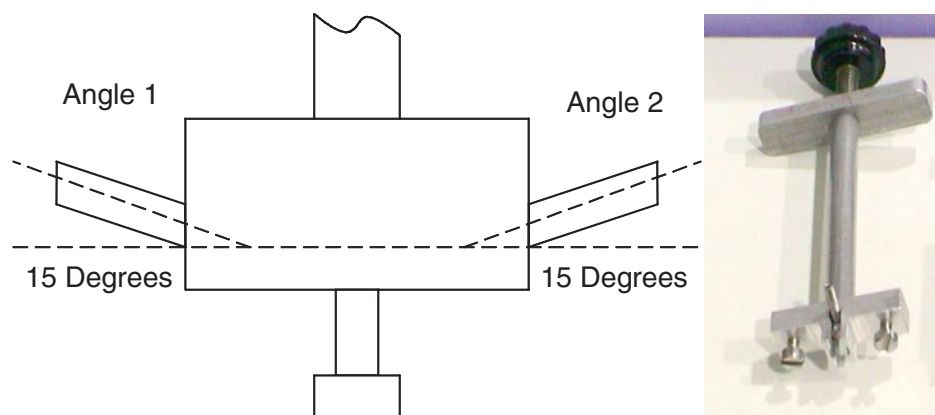

Figure 1-13 16 Slice Flex Removal Tool Pin Pitch
- * Use pliers or small crescent wrench to adjust angle on tool. See Figure 1-13.